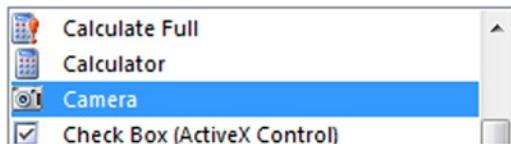

Figure 5-4. The Camera tool shown among the list of Excel features available
4. Scroll down the list until you find the Camera tool, as shown in Figure 5-4. It might help your search to click the top of the list and type C to skip to where items starting with C begin.